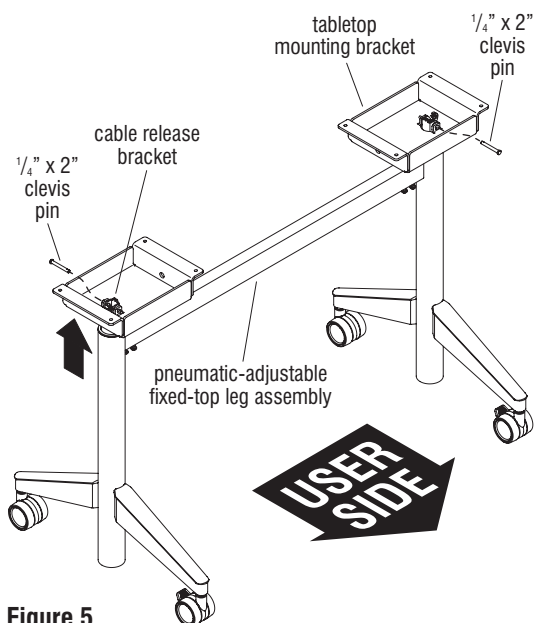

Figure 5
14. One side at a time, lift one tabletop mounting bracket up and align the mounting holes on the bracket with the cable release bracket mounting holes. While the tabletop mounting bracket is held up, and the holes are aligned, insert the  $\frac{1}{4}$ " x 2" clevis pin through the tabletop mounting bracket and cable release bracket mounting holes. Repeat this step to install the second clevis pin on the opposite side of the pneumatic-adjustable fixed-top leg assembly (Figure 5 & Detail G).